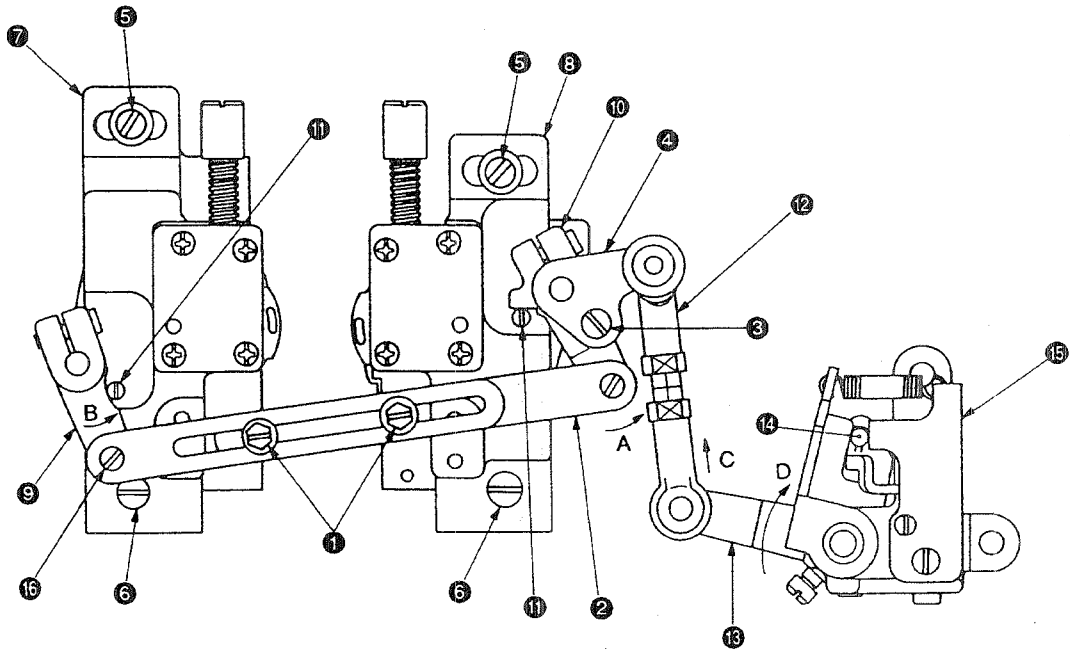

Fig. 27
1. For the sewing machine with a thread trimmer, loosen hinge screw ⑬ in the connecting link in Fig. 27 on page 22.
2. Loosen screws ① and ② in the hook driving shaft saddle and two screws ⑥ in the hook driving gear. At this time, do not remove the screw No. 1 (retained in the flat section of hook driving shaft ⑦). Loosen the screw to such an extent that the screw No. 1 does not come hook driving shaft when turning hook driving shaft gear ⑤ by hand.
4. Raise needle bar ⑨ from the lowest dead point of its stroke by dimension a. At this time, align the lower marker line engaged on needle bar ⑨ with the bottom end face of needle bar frame ⑩, and the lift of the needle bar will be 2.2 mm.
5. Move hook driving shaft saddle ③ to the right or left to adjust so that the specified clearance is provided between the needle and the blade point of the hook and the needle guard provides the specified effective amount. Then, tighten screws ① and ② to secure hook driving shaft saddle.
6. Adjust so that an approximately 0.5 mm clearance is provided between hook driving shaft screw gear ⑤ and hook driving shaft saddle ③. Then fix hook driving shaft screw gear ⑤ by tighten screws ⑥.
7. Attach connecting link (asm.) ② in position using hinge screw ⑬ as illustrated in Fig. 27 on page 22.